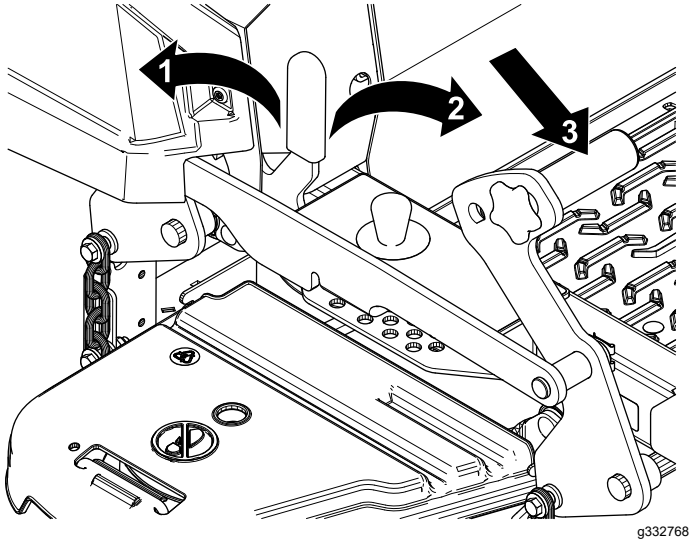

Figure 32
1. Push the deck-lift pedal fully forward to lock the mower deck in the TRANSPORT position (Figure 32).
2. Push the deck-lift pedal forward and push the transport lock forward to the UNLOCK position, then slowly lower the mower deck. (Figure 32).